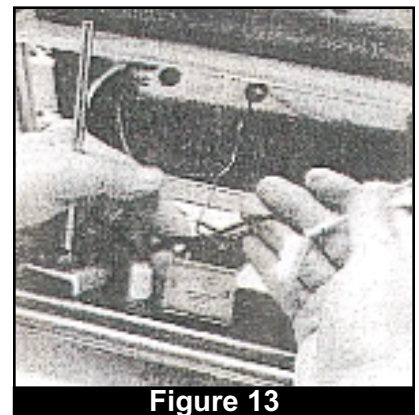

Figure 13
3. Locate the thermostat indicator lamp module wire that connects to a wire nut and remove that wire nut, freeing all wires. (Fig. 13)